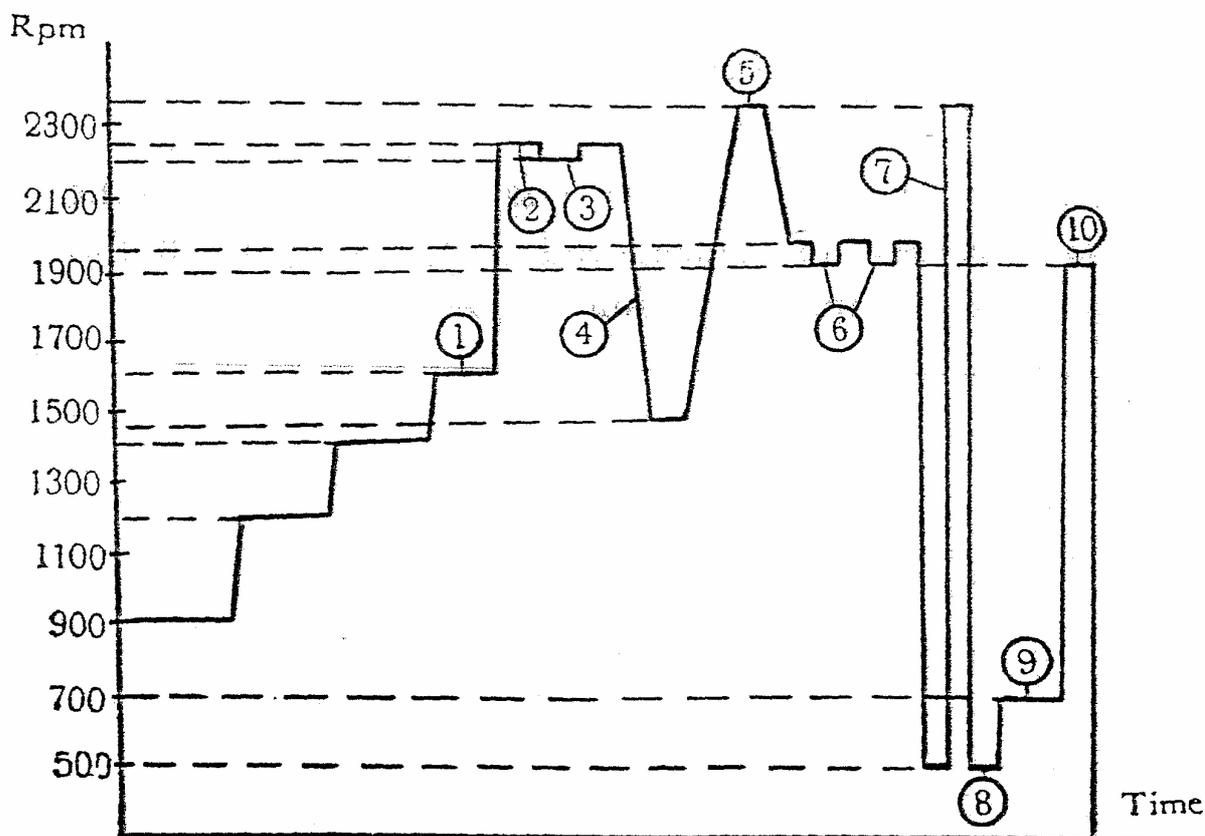

Fig. 4 Performance curve of run test for engine HUOSAI-6A
f. Give orders for leave propeller, after receiving the answer have left, set magneto switch in "1+2" position, connect starting switch, then press the starting button, in order to start engine (see fig. 4 curve for engine's test).